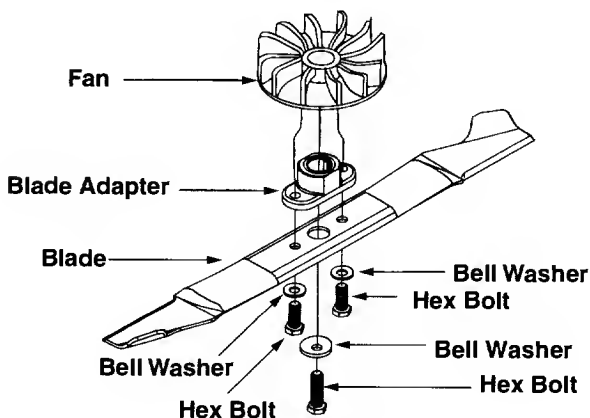

Figure 12
- Using a 9/16" box or open-end wrench, remove center bolt and bell washer which hold the fan, blade and adapter to the motor shaft. See figure 12.
- Remove the two small bolts, bell washers and nuts which hold the blade to the adapter. See figure 12. Remove fan from blade adapter.
- Assemble bolts, washers, and nuts in the exact order of removal. Make sure to assemble the fan properly before running the mower. See figure 12.
- When replacing the blade, be sure to install the blade with the side of the blade marked "Bottom" (or with part number) facing the ground when the mower is in the operating position. Also make sure to follow the correct order as shown in figure 12.